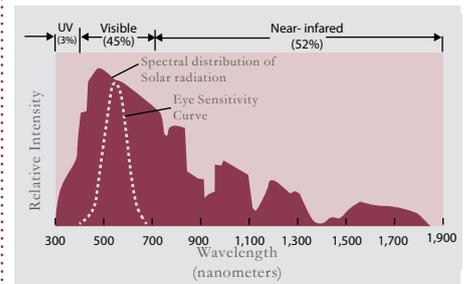

Fig. 9: Solar Spectrum
these factors is critical to designing buildings that meet the needs of building owners and users. Once these factors are identified, a designer can then apply the appropriate technology to address them. The three components of the solar radiation are: Ultra-Violet (UV), Visible, and Near-Infrared (NIR)- Fig. 9. While half of this energy is invisible, either in the UV or NIR, it must still be considered in the selection of glazing. Standard, untreated glass is naturally transparent to 85 percent of the UV, Visible, and NIR rays, but selective glazing has the ability to distinguish visible from invisible energy in ways that decrease solar heat gain while maintaining daylight transmittance and vice-versa.